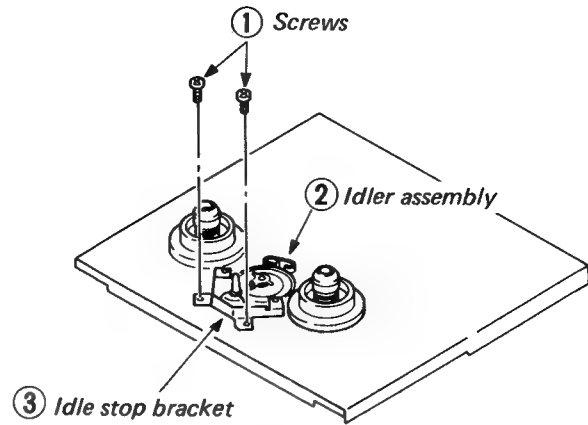

Fig. 1-3-37 Removal of idle stop bracket
2) Removal of idle stop bracket (Fig. 1-3-37)